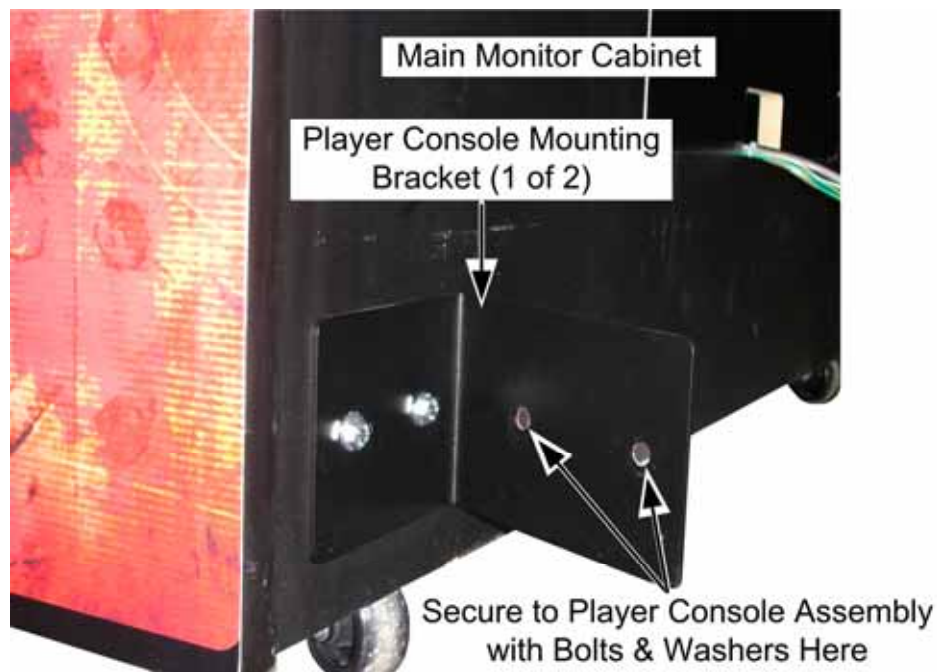

Figure 6. *Player Console Mounting Bracket*
- Two (2) 6-Pin Molex™ Connectors for Chassis Ground Wires
7. Install the two (2) player console mounting brackets on the monitor cabinet with two (2) ¼-20 x 1 ½" hex-head bolts with washers on each side, as shown in Figure 6.
8. Position the player console, being careful not to pinch any wires, and secure it with two (2) ¼-20 x 1 ½" hex-head bolts with washers in each mounting bracket.
9. Lower all leg leveler. There are four (4) under the Monitor Cabinet, three (3) under each player console, and two (2) under each seat assembly.